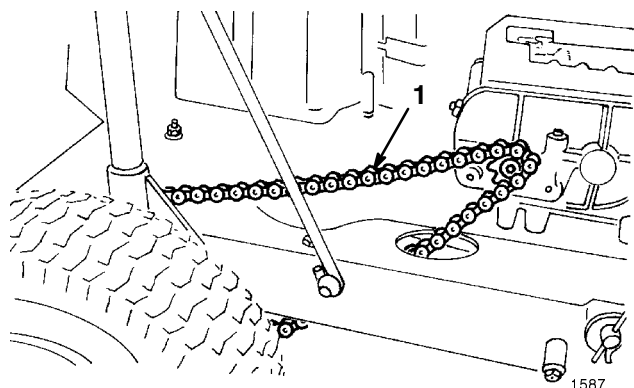

Figure 29
2. Check deflection of drive chain by lifting up and pressing down on chain with moderate pressure at mid span (Fig. 29). There should be 1/8 of an inch (3 mm) total deflection (Fig. 30). If deflection is not as specified, an adjustment is required; see steps 3-13.